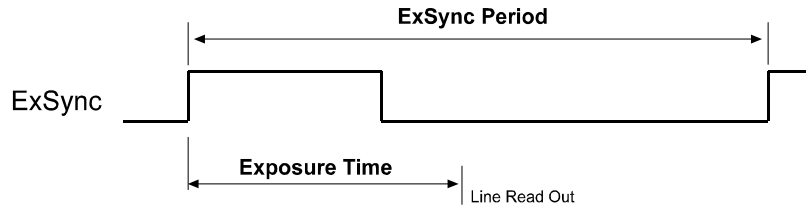

Figure 3-4: ExSync, Programmable Mode
- In **ExSync, programmable** mode, the rising edge of ExSync triggers exposure and charge accumulation for a pre-programmed period of time. The line is read out and transferred at the end of the pre-programmed period. The falling edge of ExSync is irrelevant (see Figure 3-4). A parameter called “Exposure Time” is used to set the length of the pre-programmed exposure period.